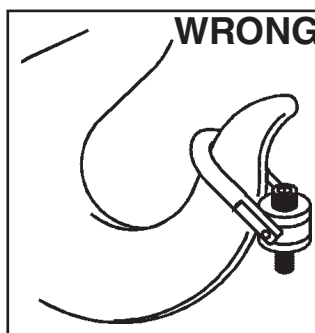

Figure 1
- Attach lifting device ensuring free fit to hoist ring bail (lifting ring) (Fig. 1).